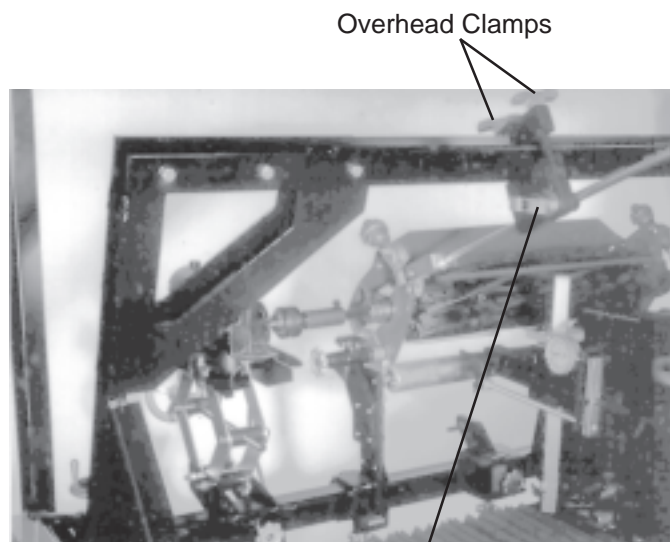
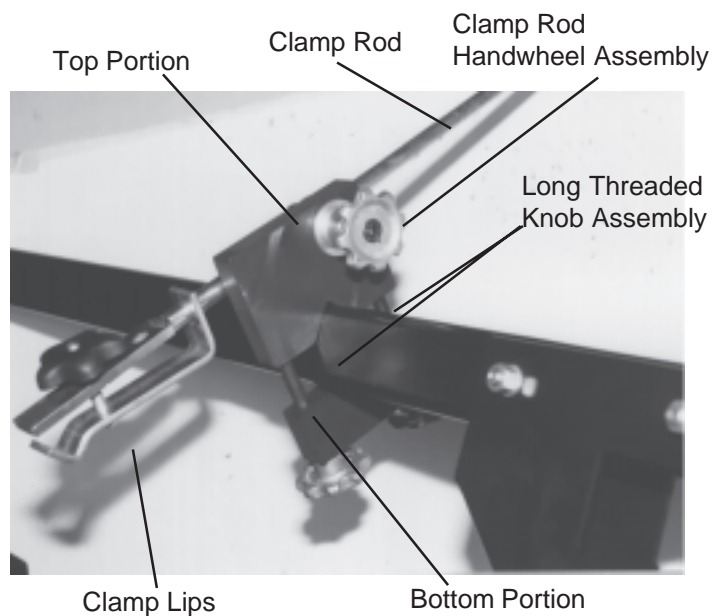

FIG. 25
FIG. 26
Loosen the two (2) screw handles on each overhead clamp and move them to where the overhead clamp rods with clamping lips can be attached to the reel. This can be a mounting bolt on the reel or the reel cross bar. Tighten the clamping lips to the mower, then securely tighten the two (2) locking handles on each overhead clamp. See FIG. 25 and FIG. 26.